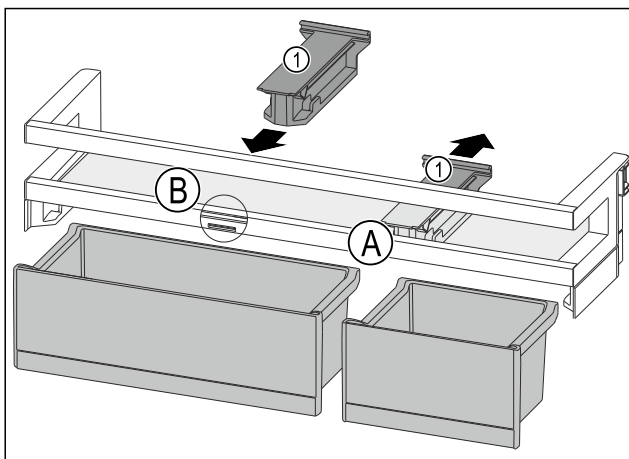

Fig. 157
- ▶ Take off the holding part Fig. 157 (1) in position Fig. 157 (A) backwards.
- ▶ Insert the holding part Fig. 157 (1) in position Fig. 157 (B).